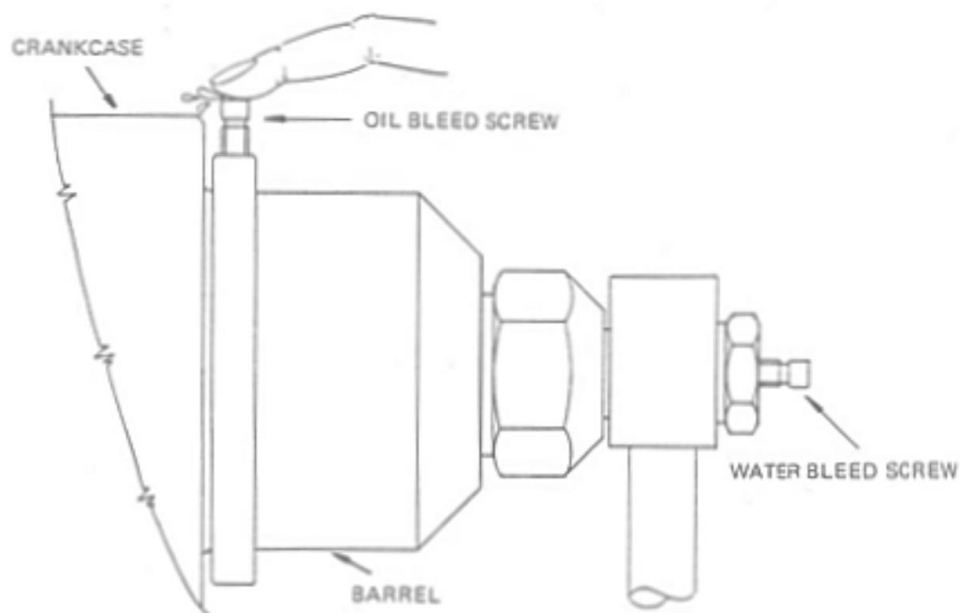

Fig 3.1 Bleeding the pump
- 3) With reference to Fig 3.1, put a finger on top of an oil bleed screw on a lower barrel and open the screw slowly using a suitable spanner. When air-free oil flows, tighten the bleed screw firmly.
- 4) Repeat the procedure detailed in sub-para (3) for each barrel, starting from the lower barrels first.
- 2) The pump is self-priming. If, however, any difficulty is experienced, stop engine, loosen the upper bleed nipples and allow water to flow from each nipple (ensure that the header tank remains full). Tighten nipples and repeat the procedure detailed in sub-para (1). To identify the bleed nipples, refer to Fig 3.1.
**NOTE** If the delivery line vibrates this indicates that air is still in the system. Stop the unit and repeat the procedure detailed in sub-para (1) .